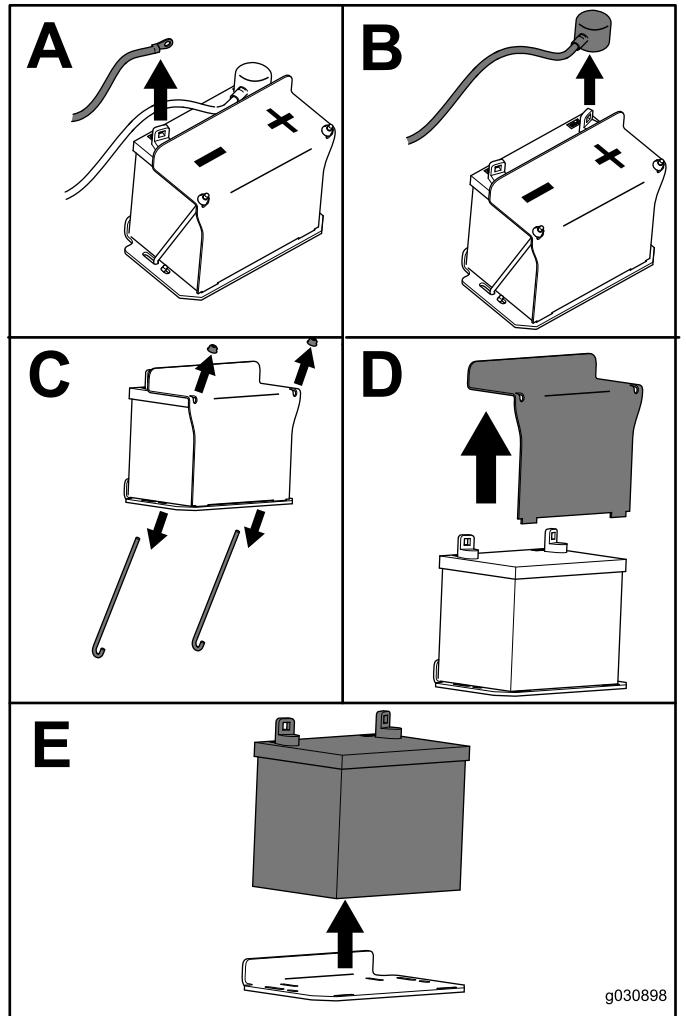

Figure 60
- Remove the battery as shown in Figure 60.